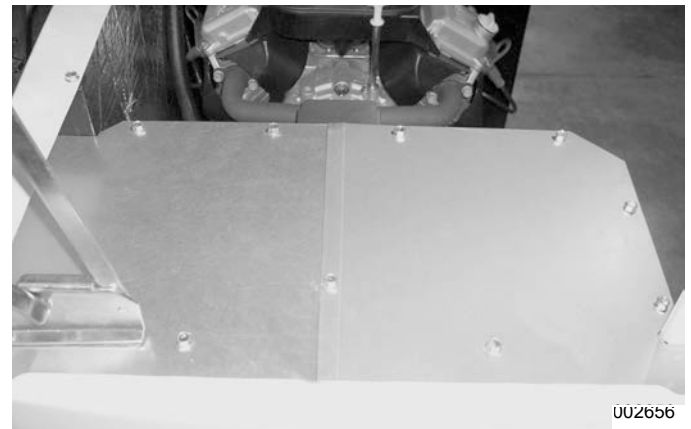

Figure 4-39.
1. **Remove Top Exhaust Enclosure Covers:** See Figure 4-39. Use a 10 mm socket to remove the nine bolts from the exhaust top covers. Remove covers.